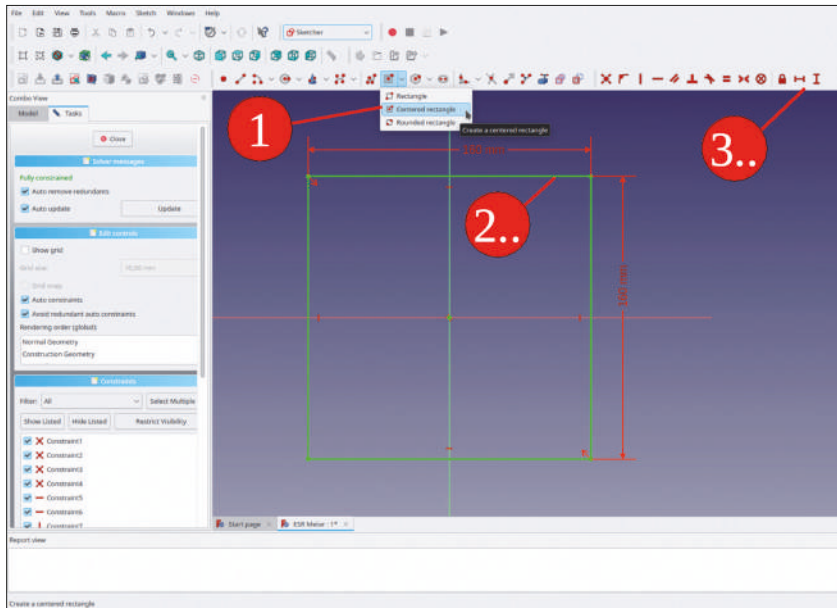

Figure 7-2
2. Start the sketcher and select the XY plane from the initial selection dialog. Click the 'OK' button to proceed. Click on the 'Create a centered rectangle' tool button and draw a rectangle, which is centered around the origin (Figure 7-2). End the drawing command with a right click. Mark a horizontal line of the rectangle and click the 'Constrain horizontal distance' tool button. Enter a value of 160 mm. In a similar way, constrain the height of the rectangle to 160 mm. Close the sketch.